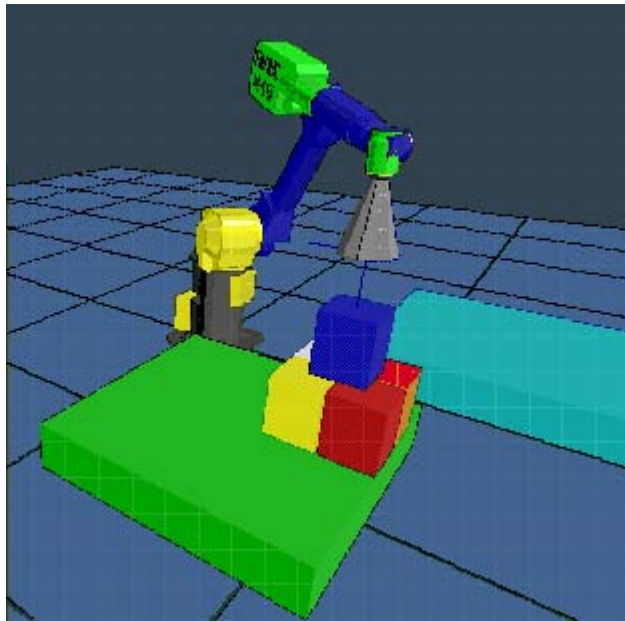

Fig. 2.20 Robot during paletization
10. Write a control program that for the robot moves boxes from one storage space to another and sets them into the form of pyramide, as shown in Fig. 2.20. Use GRAB and RELEASE functions. **GRADE 5**